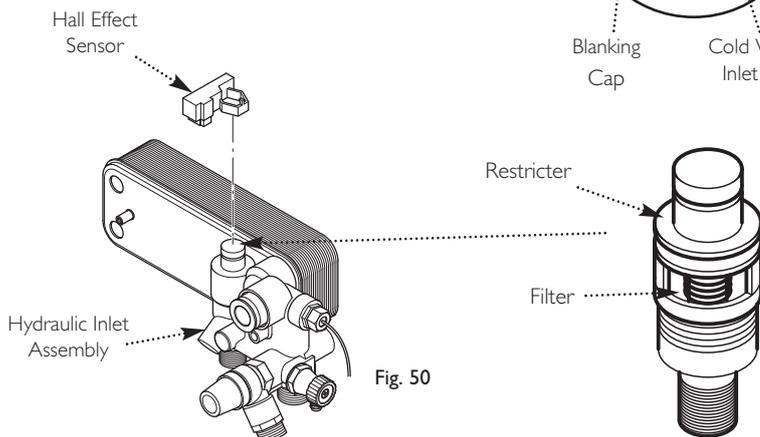

Fig. 50
DHW Filter (Fig. 50)
17. Pull off the Hall Effect sensor. Undo the restrictor from the inlet/return manifold (Fig. 50).